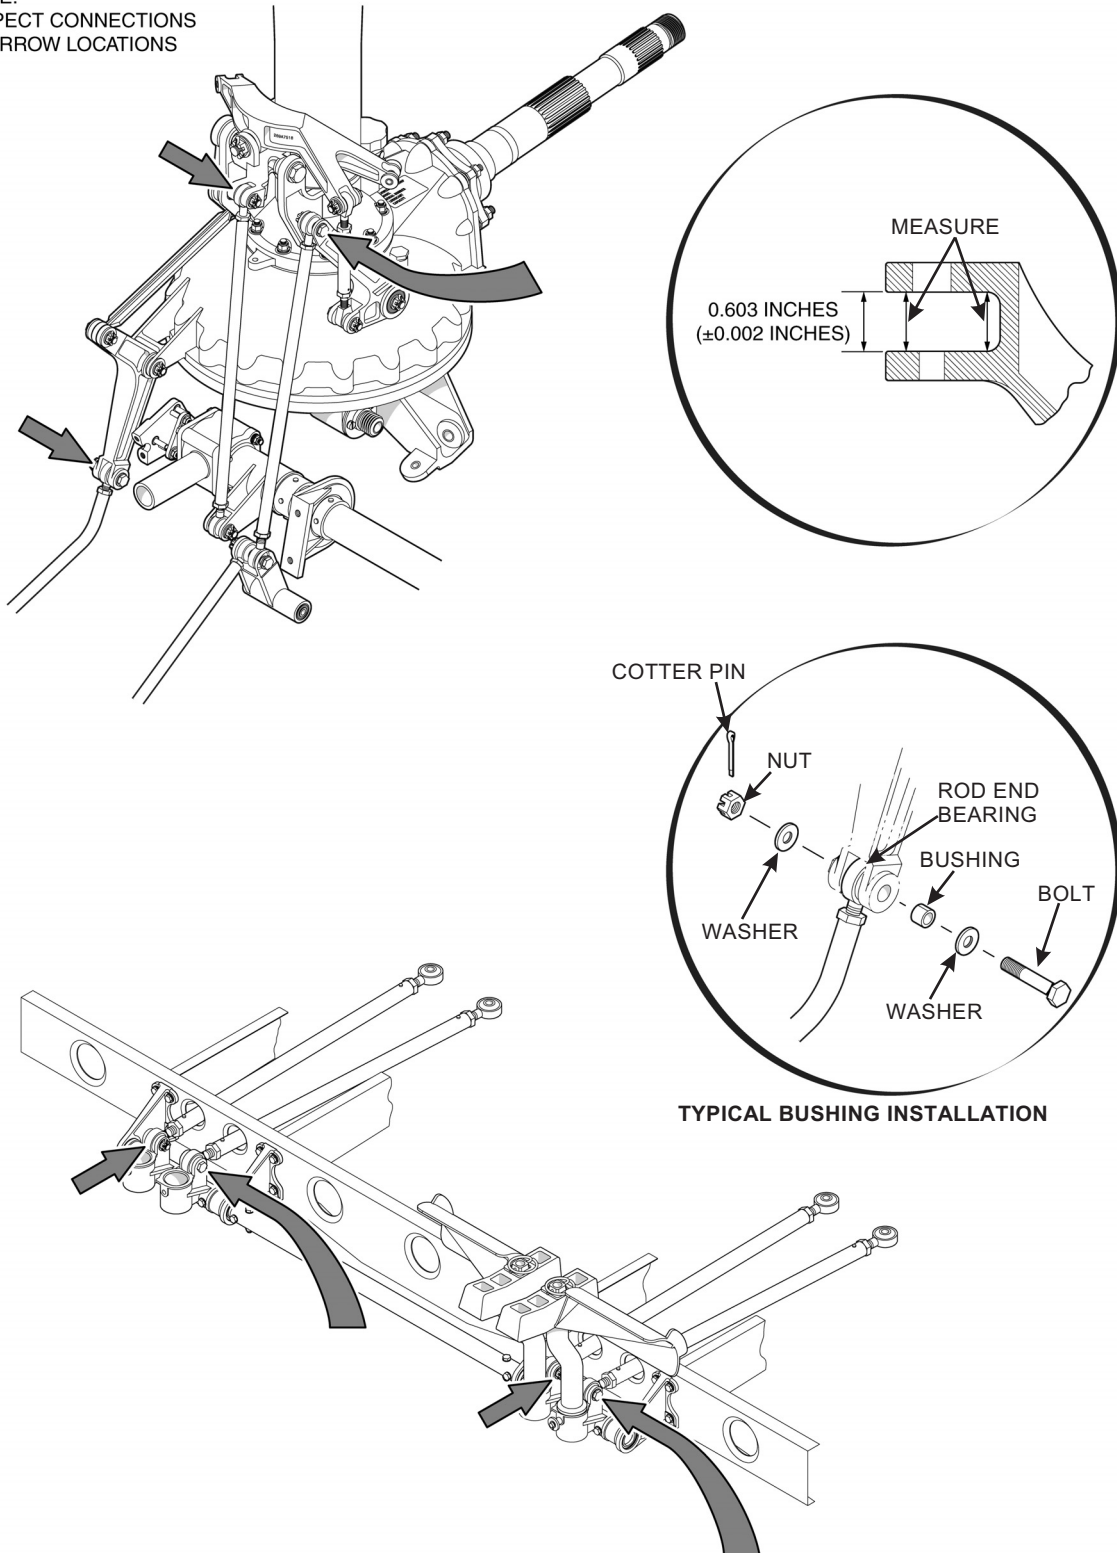

Figure C1B-031-1. Flight Control Inspection Points
- a. Review Figure C1B-031-1 and note locations of all SHS626-4-313 bushing installations.
- c. If incorrect bushing is installed, remove bellcrank. Using Vernier calipers, check that the inside surfaces of the fork legs in two locations measure  $.603 \pm .002$  (Figure C1B-031-1) and are parallel to each other. If surfaces are parallel, perform a dye penetrant inspection in accordance with Basic HMI Section 2. Remove from service and destroy any bellcrank found to have distorted or cracked legs.